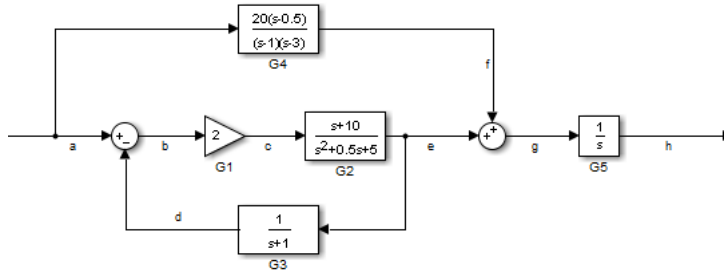

Figure 9.8: Block diagram of Example 9.10.
**Example 9.10.** In the block diagram of Figure 9.8 we make